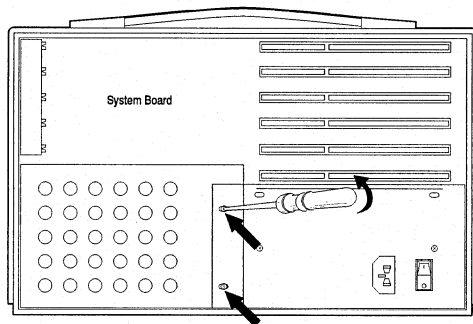

fig. 5-7
3. To install memory modules in the PAC you must remove the power supply. First remove the two screws on the left side of the power supply (fig. 5-7).